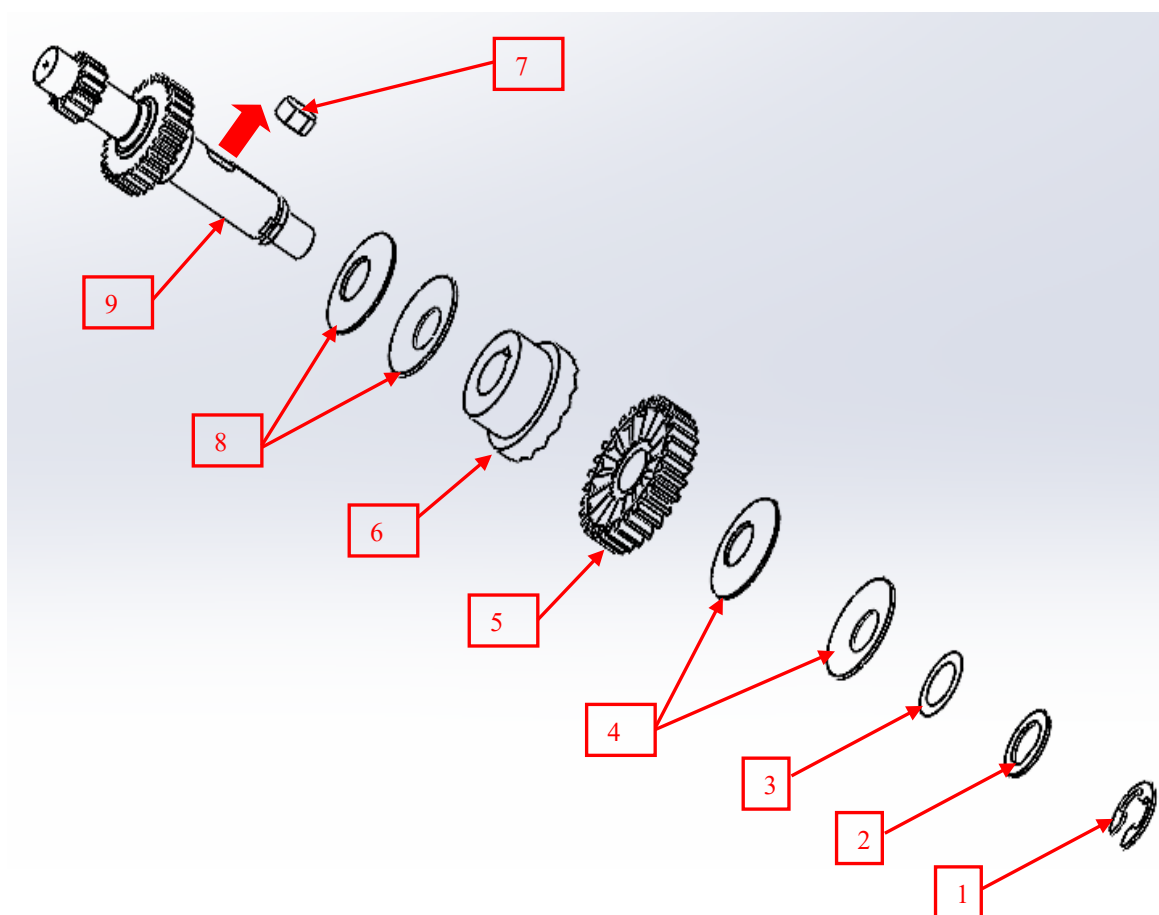

Figure 2.17
2.6.3 Proceed with the disassembly of the clutch following the various steps and as shown in figure 2.17:
- a) Remove the seeger ring (COT91056) – figure 2.17 – position 1;
- b) Remove the thrust washer (COT91057) – figure 2.17 – position 2;
- c) Remove the adjustment disc (COT90057) – figure 2.17 – position 3;
- d) Remove the two cup springs (COT90573) – figure 2.17 – position 4;
- e) Remove the toothed wheel (COT90055) – figure 2.17 – position 5;
- f) Remove the semi-coupling (COT90052) – figure 2.17 – position 6;
- g) Remove the keyway (COT90051) – figure 2.17 – position 7;
- h) Remove the two cup springs (COT90573) – figure 2.17 – position 8;
- i) The countershaft (COT90048) remains – figure 2.17 – position 9.